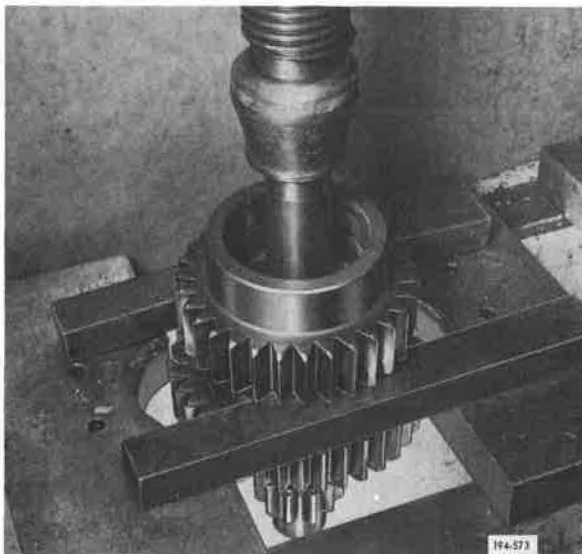

Figure 5-762. Pressing Gears Off of Rear Countershaft
4. Press the gears off of the rear countershaft. See Figure 5-762.